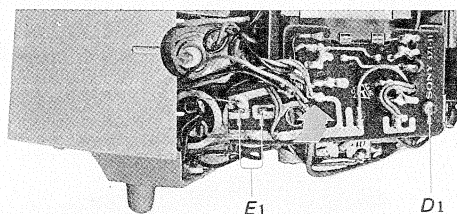

Fig. 2-6
1. Remove a screw labeled D1 in Fig. 2-6.
2. Unsolder the two terminals of a electrolytic capacitor labeled E1 in Fig. 2-6 and then lift off the P board.